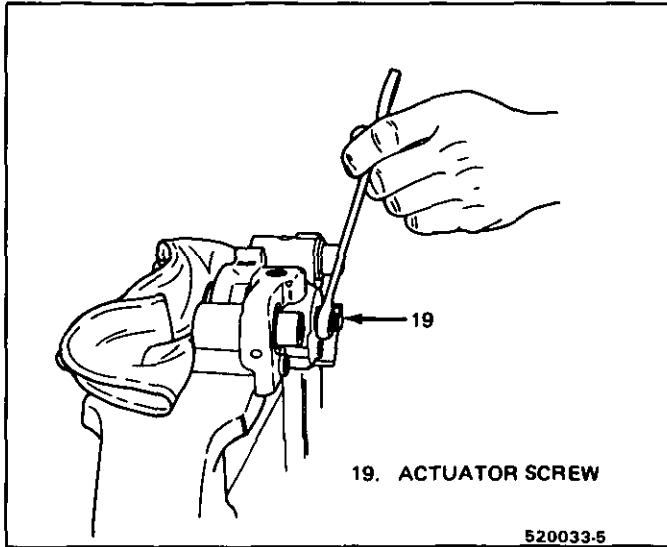

Fig. 10 Removing Piston
2. Nut (1) and lever (2), if installed.
3. Lever seal (6) and anti-friction washer (7), if installed.
- Use a wrench to rotate actuator screw (19) as shown in Figure 10.
5. Actuator screw (19) by pressing on threaded end.